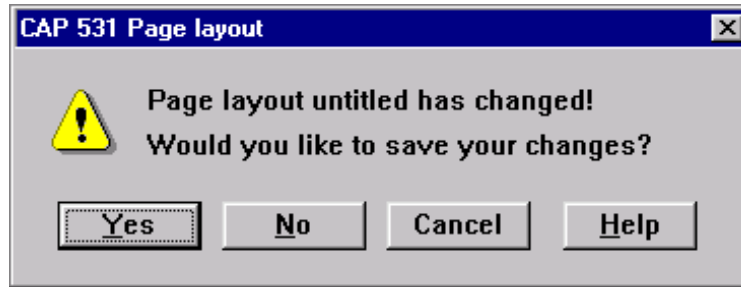

Fig. 52 The CAP 531 page layout dialog box.
- 1 **Select 'Close' or 'Close All' in the File menu. If you have not saved the page layout, the dialog box in Fig. 52 appears.**